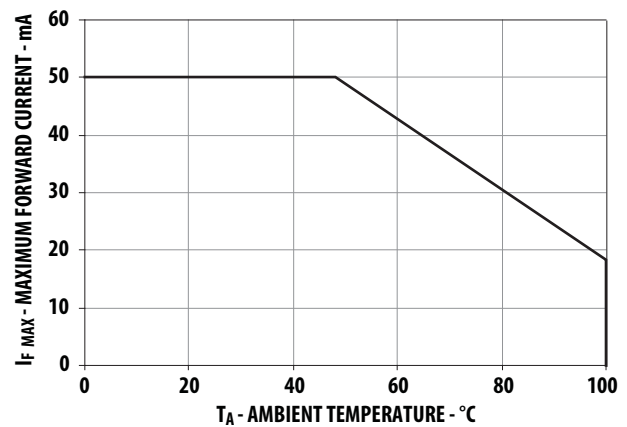

Figure 4. Maximum Forward Current vs Ambient Temperature
1. Derate linearly as shown in Figures 4 and 8.